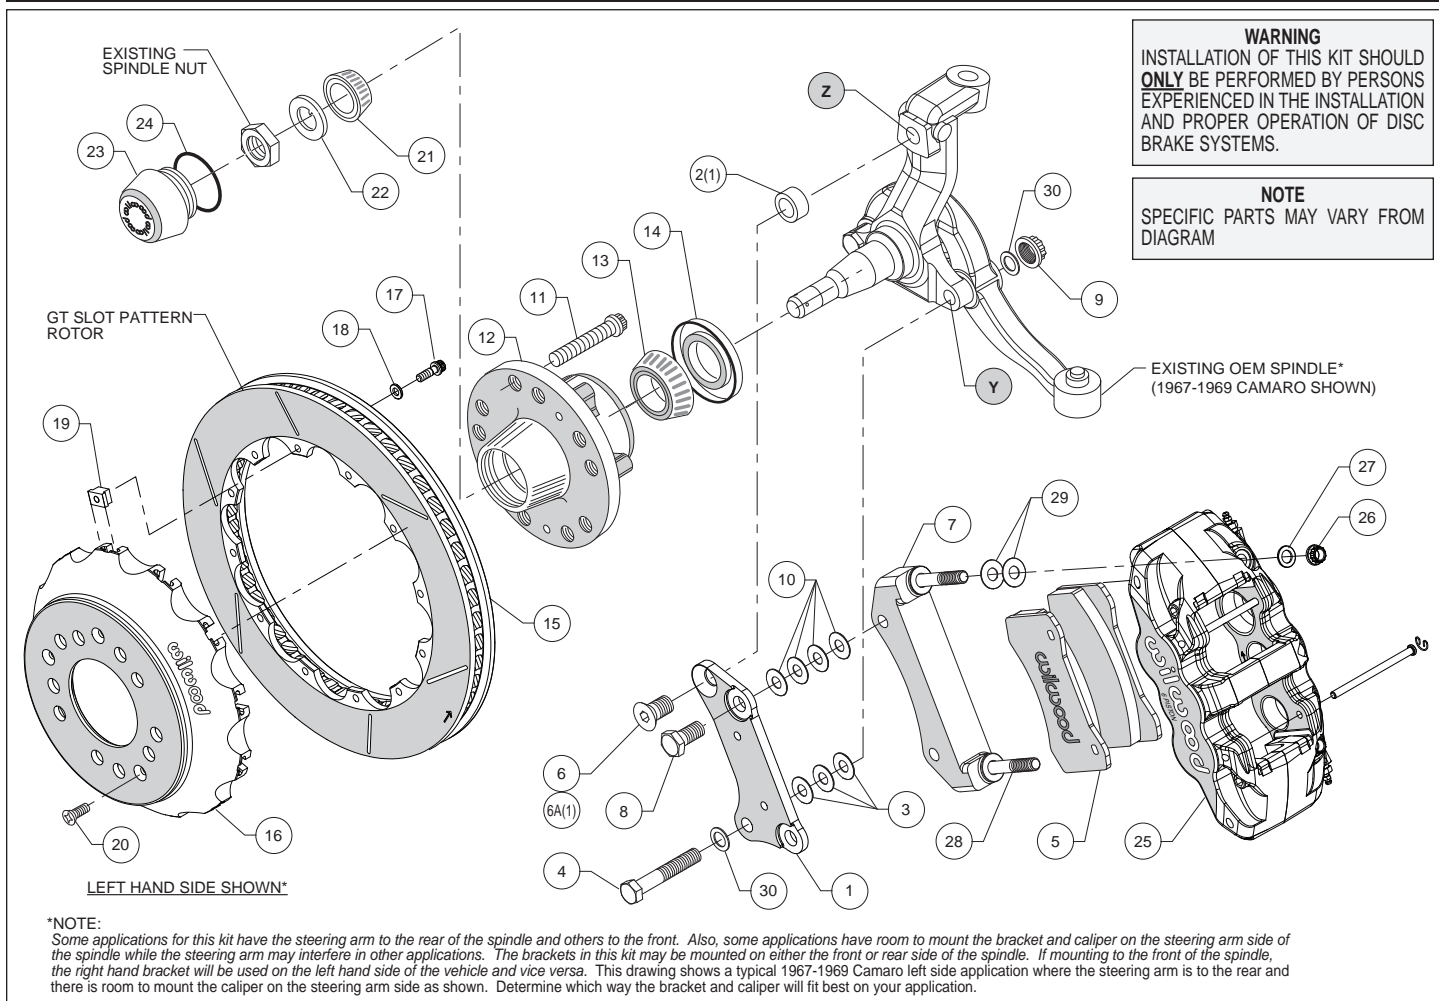
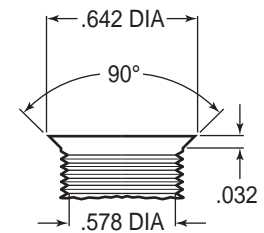
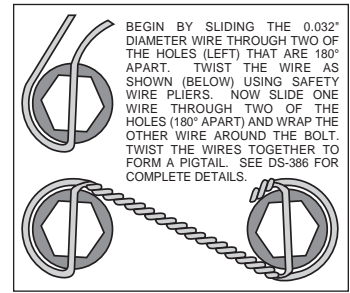

Figure 1. Typical Installation Configuration
Figure 3. Drill and Tap Detail
Figure 4. Safety Wire Diagram
## Assembly Instructions (numbers in parenthesis refer to the parts list, and Figure 1 on the preceding pages):
•**NOTE:** Some applications for this kit have the steering arm to the rear of the spindle and others to the front. Also, some applications have room to mount the bracket and caliper on the steering arm side of the spindle while the steering arm may interfere in other applications. The brackets in this kit may be mounted on either the front or rear side of the spindle. If mounting to the front of the spindle, the right hand bracket will be used on the left hand side of the vehicle and vice versa. Figure 1 shows a typical 1967-1969 Camaro left side application where the steering arm is to the rear and there is room to mount the caliper on the steering arm side as shown. Determine which way the bracket and caliper will fit best on your application.
•**NOTE:** Some spindles in this year range may require the following modifications (reference Figure 1 and Figure 3): Top anchor pin hole (Z) must be drilled and tapped to the dimensions as outlined in Figure 3. The lower bolt hole (Y) in the spindle used to mount the new caliper bracket, and the mating steering arm hole, must be enlarged to .50" by drilling. It is recommended these modifications be performed by a qualified machinist.
•Install wheel studs (11) into the hub (12), Figure 1 and Photo 1. Torque to 77 ft-lb. **NOTE:** There are two five lug patterns in the hub (5 x 4.50 and 5 x 4.75). Ensure the correct hub stud pattern is being used to fit the wheel application.
•Pack the large inner bearing cone (13) with high temperature disc brake bearing grease (available from your local auto parts store) and install into the backside of the hub (12), Photo 2.
•Install the grease seal (14) by pressing into the backside of the hub (12), flush with the end of the hub, Photo 2.
•Orient the rotor (15) and the hat (16) as shown in Figure 1 and Photo 3. Attach rotor to hat using bolts (17), washers (18), and t-nuts (19). Using an alternating sequence, apply red *Loctite*® 271 to the threads, and torque to 120 in-lbs. Safety wire bolts using standard 0.032 inch diameter stainless steel safety wire as shown in Figure 4. Please refer to Wilwood's data sheet DS-386 (available at [www.wilwood.com/Pdf/DataSheets/ds386.pdf](http://www.wilwood.com/Pdf/DataSheets/ds386.pdf)) for complete safety wire installation instructions.
- Disc Brake Spindle Application Only:** Follow the instructions below, but instead use bolt (6A), and spacer (2) in the upper bolt hole location, Figure 1.
- Orient the flat bracket (1) as shown in Figure 1 and Photo 4, and install using bottom bolt (4), washers (30), and nut (9), Figure 1. Initially place three .032" thick shims (3) between the bracket and spindle. Install the upper bolt (6 or 6A), Photo 5. Temporarily tighten bolts. **NOTE:** *The bracket must fit squarely against the mounting surfaces on the spindle.* Inspect for interference from casting irregularities, machining ridges, burrs, etc. Temporarily install the hub and hat/rotor assembly. Check that the bracket is aligned parallel to the rotor, Photo 6. If not, adjust by adding or subtracting shims (3) on the lower bolt between the bracket and spindle, Figure 1. Once the bracket alignment is correct, remove the upper bolt (6 or 6A), apply red *Loctite*® 271 to the bolt threads, and torque to 140 ft-lb. Torque the lower lock nut to 65 ft-lb.
- The radial mount caliper bracket (7) should initially be installed with clean dry threads on the mounting bolts. Orient bracket as shown in Figure 1, and install using bolts (8). Initially place four shims (10) on each bolt between the two brackets. Temporarily tighten the mounting bolts. Later, after the caliper alignment has been checked, the mount bolts will be secured using red *Loctite*® 271.
- Pack the small outer bearing cone (21) with high temperature disc brake bearing grease and install into hub (12). Final install the hub assembly onto the spindle. Secure using spindle washer (22), and OEM spindle nut, Photo 7. Adjust bearings per OEM specifications. Install new cotter pin (not included).
- Screw dust cap (23) into hub (12), Photo 8. Friction created by the o-ring (24) on the dust cap keeps it from unscrewing. **NOTE:** *The O.D. of the existing OEM spindle washer may be larger than the I.D. of the dust cap not allowing it to seat against the hub face. Therefore, use the spindle washer (22) supplied with the kit instead of the OEM washer.*
- Final install the hat/rotor (15 and 16) onto the hub (12) taking care to align the small countersunk holes in the hat with the small threaded holes in the hub. **NOTE:** *The hat must fit flush against the hub face or excessive rotor run out may result.* Install three flat head screws (20) through the small holes in the hat (16), Photo 9, and torque to 85 in-lb.
- NOTE:** *This kit contains distinct right and left hand calipers that must be mounted in a specific direction, as described below.* Lubricate the caliper mounting studs (28) with lightweight oil. Initially place two .030" thick shims (29) on each stud between the caliper and the bracket, as shown in Figure 1 and Photo 10. Mount the caliper (25) onto the bracket (7) using lock nuts (26) and washers (27), Figure 1. Ensure that the caliper is mounted so the largest pistons are at the rotor exit end of the caliper, in relation to the direction of rotor rotation. Temporarily tighten the lock nuts and view the rotor through the top opening of the caliper. The rotor should be centered in the caliper, Photo 11. If not, adjust by adding or subtracting shims (10) between the flat bracket (1) and the radial mount bracket (7). Always use the same amount of shims on each
- Remove the two pad retaining pins from the caliper (25) by carefully popping out the pin retaining clips and sliding out the pins. Insert the brake pads (5) into the caliper from the bottom, Figure 1, Photo 12. With the friction material facing the rotor, secure the brake pads in place with the pad retaining pins and clips, Photo 13. Reinstall the caliper onto the caliper mounting bracket and temporarily tighten the lock nuts. Check that the top of the brake pad is flush with the outside diameter of the rotor, Photo 14. If not, adjust by adding or subtracting shims (29) between the caliper and the bracket. After the caliper pad height is set, torque the caliper lock nuts (26) to 47 ft-lb.